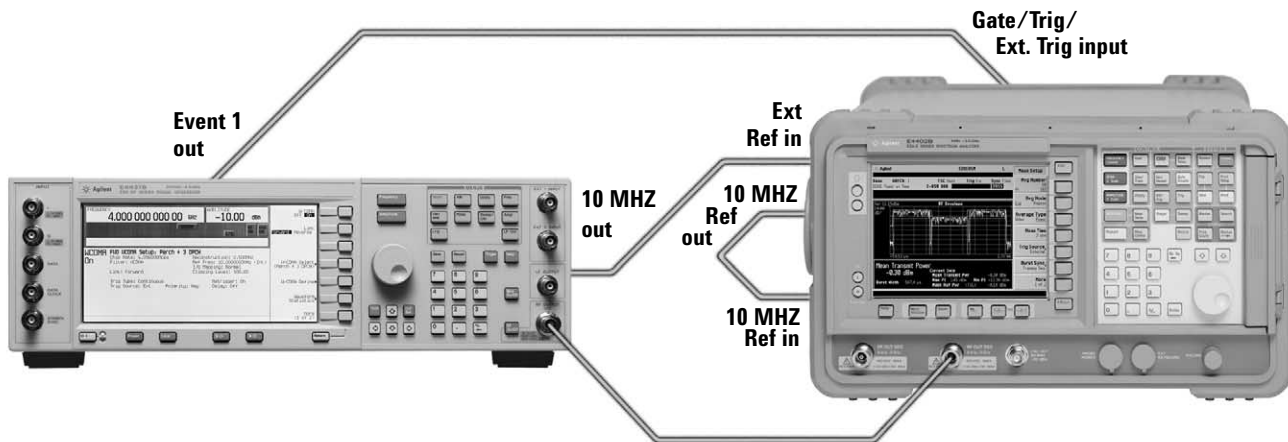

Figure 2. Connection diagram for GSM and EDGE measurements.
1. Using a 50 Ω RF cable, connect the RF Output 50 Ω port on the ESG to the RF INPUT 50 Ω port on the ESA as shown in figure 2.